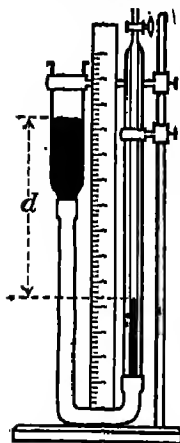

FIG. 205. Boyle's Law.
**Expt. 255.** To find the relation between the volume and pressure of a gas, the temperature remaining constant. Use the apparatus illustrated in Fig. 205. It consists of a graduated glass tube, the zero mark being at the top. The tube is connected by a strong india-rubber tube to a reservoir, the height of which can be regulated by sliding it on a frame. Pour mercury into the reservoir and close the tap fitted at the top of the graduated tube when the latter is about half full of air. The surfaces of the mercury in both tube and reservoir will now be level because they are both at the pressure of the atmosphere.